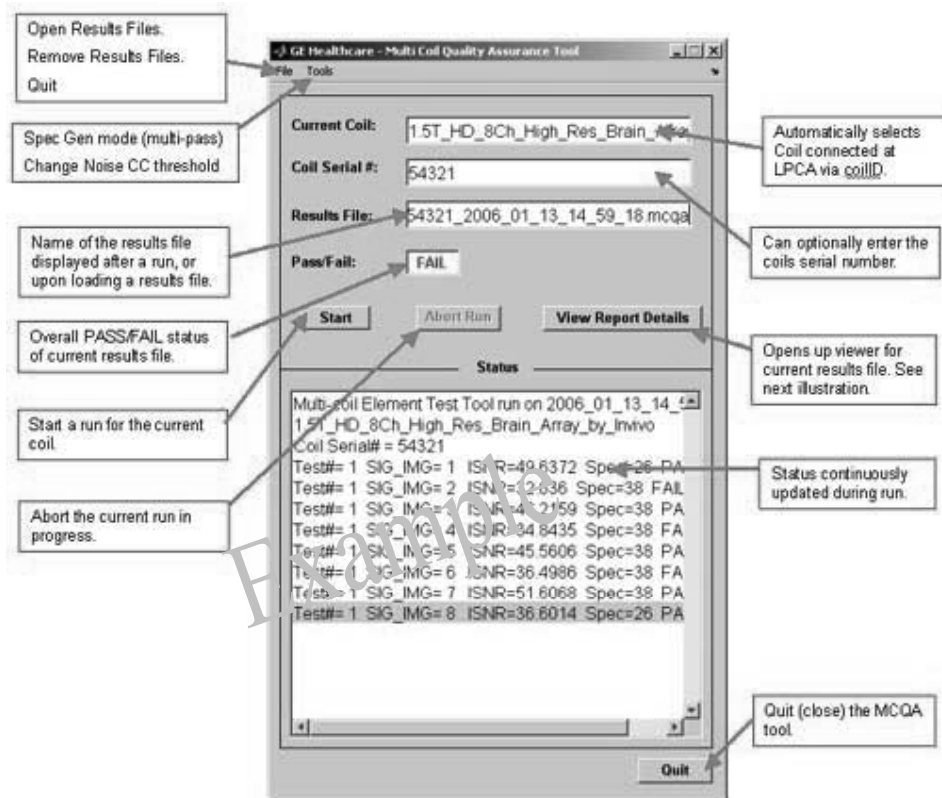

Figure 13: MCQA Starting window
2. From the Common Service Desktop (CSD) select [Image Quality], *Multi-Coil QA Tool* and Click here to start this tool. The Coil Log Viewer will open as shown in Figure 13.